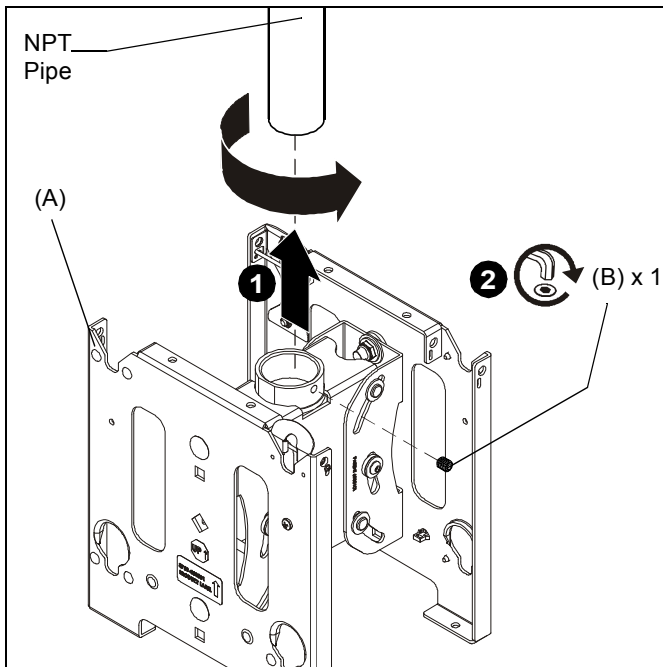

Figure 1
1. Thread the MCD mount (A) onto the existing 1-1/2" NPT or NPSM pipe (not included) until tight. (See Figure 1)
2. Install and tighten the 5/16-18 x 3/8" set screw (B) using the 5/32" hex head wrench (C). (See Figure 1)